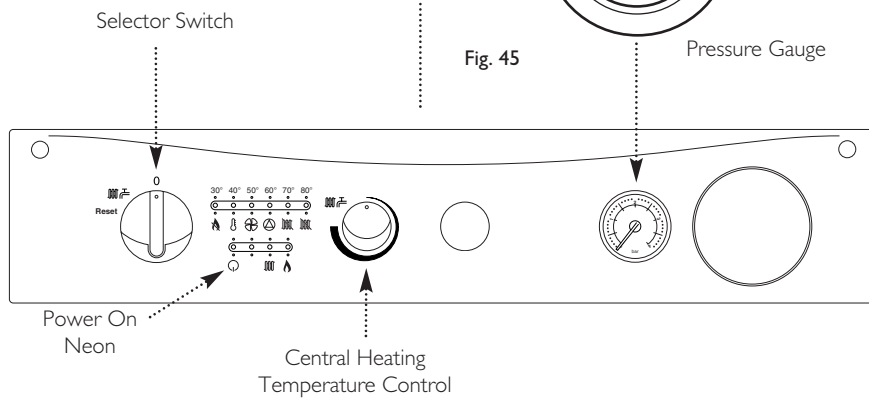

Fig. 46
8. If at any time during commissioning it is required to terminate a particular cycle, e.g. the pump overrun period, turn the selector to the Off position and then back to the On position (OFF) (Fig. 46).